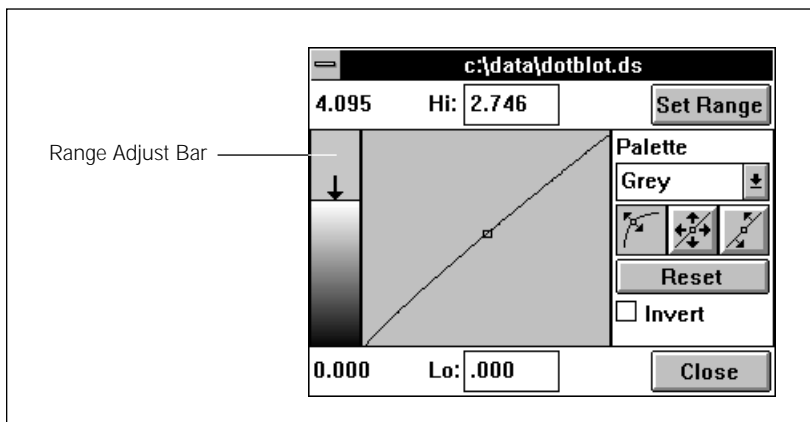

Figure 7-2. Adjusting the upper range.
- **To change the high display limit**—Place the pointer at the top of the range adjust bar and drag the pointer down (figure 7-2). When the bands begin to turn green (indicating high intensity areas), move the pointer up slightly until the bands are again black, and then release the mouse button.